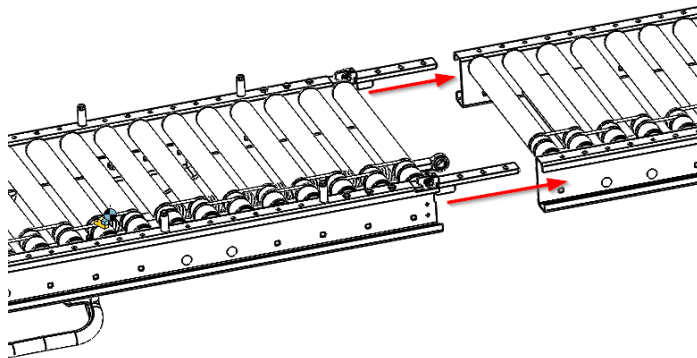

Figure 5: RLVD CG Installation-1
| Figure 5: RLVD CG Installation-1 | 10 |
2. Slide the gate hinges into the conveyor the gate is mounting to. (Refer to Figure 5)